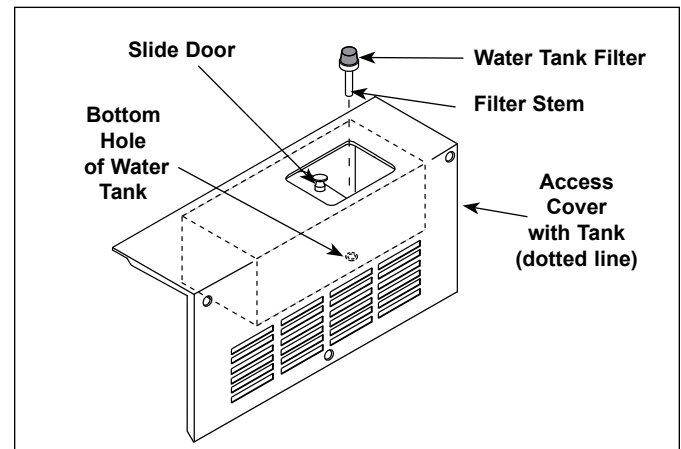

Figure 9. Water Tank Filter—MS-150/155 Only
The Water Tank Filter is used to prevent solids or food products from entering and damaging the water pump. The unit uses a water filter (Figure 9). Inspect and clean this filter monthly or more regularly using the following procedure:
2. Open the Slide Door (Figure 9).
5. Reinstall the filter stem into the bottom hole of the tank (Figure 9).